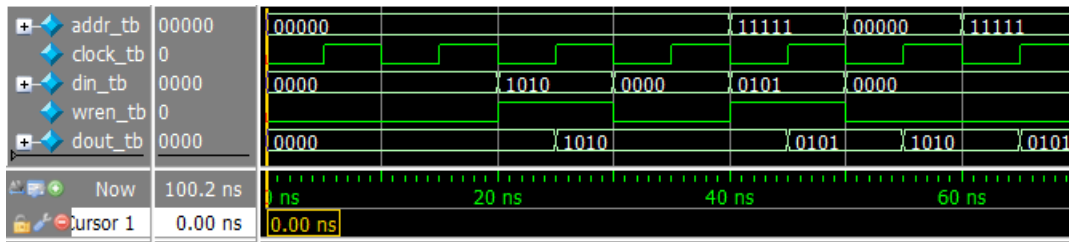

Figure 4: An example of simulation output.
5. Simulate the behavior of your circuit using Modelsim and ensure that you can read and write data in the memory. Use the included testbench file as a baseline for your simulation inputs. An example simulation output is given in Figure 4.